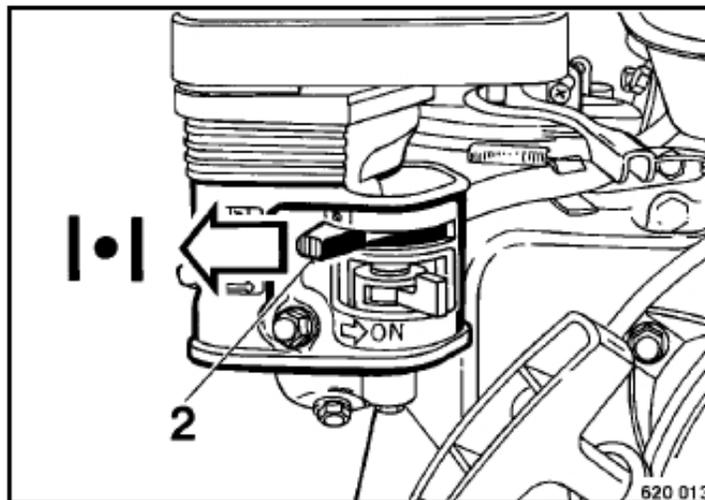

Fig. 8
- 1 Push the lever 2 (Fig. 8) for the choke in direction of arrow to the end stop and close the choke.